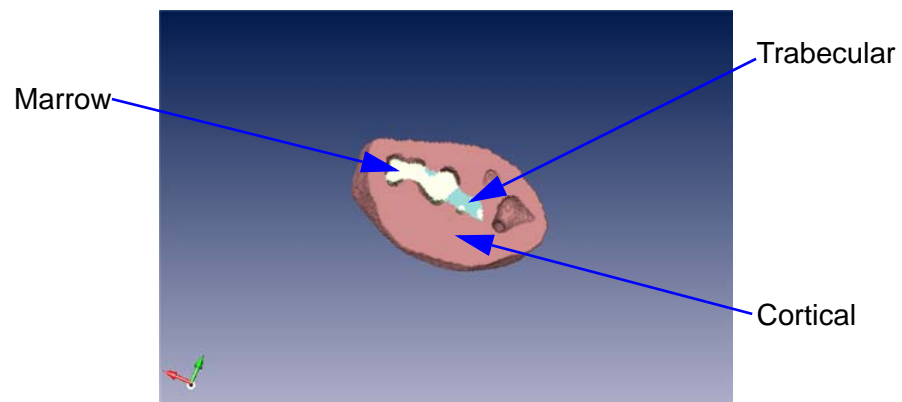

Figure 47. Trabecular, Cortical, and Marrow Bone Compartments
- 11 To better view the three segments, clear the **Show ROI** check box on the Step Settings Tab. The cortical bone segment displays in brown, the trabecular bone segment displays in green, and the marrow bone segment displays in light green. See Figure 47.